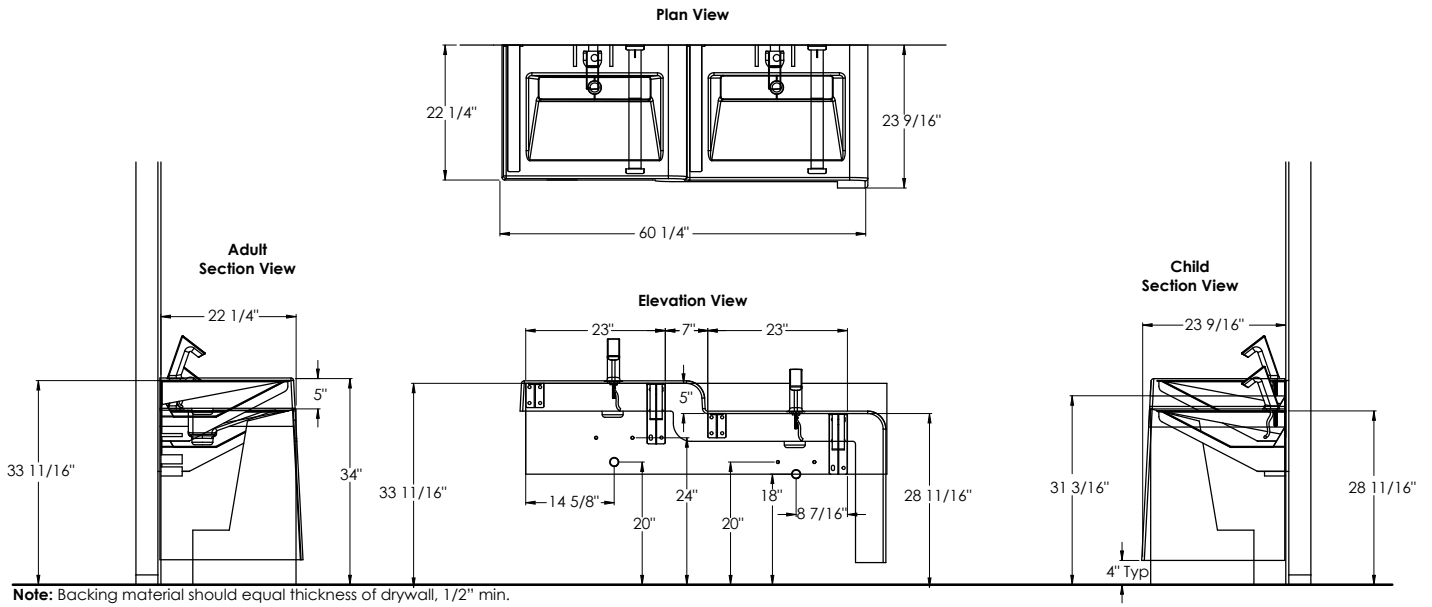

Figure 1
- a. If drywall is present, refer to rough-in, Figure 1, and cut out drywall window to the outer dimension of the side brackets at 12 1/2" high, 33" above finished floor.